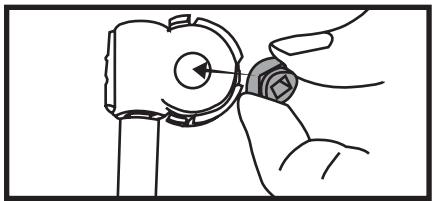

Figure 28; Snap in Attachment
Determine the size and shape of the rod located in your header. Locate the ADAPTER from the selection supplied which matches your rod shape and size and snap into the UNIVERSAL TILT GEAR (G) [Fig. 28].